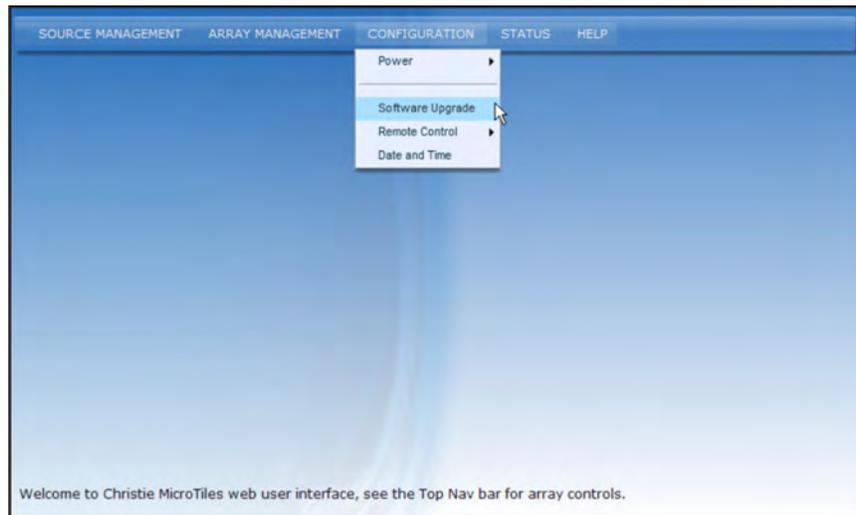

Figure 3-31 Software Upgrade
1. From the webUI, select **Configuration** from the top menu bar and **Software Upgrade** from the drop-down menu that appears (**Figure 3-31**).